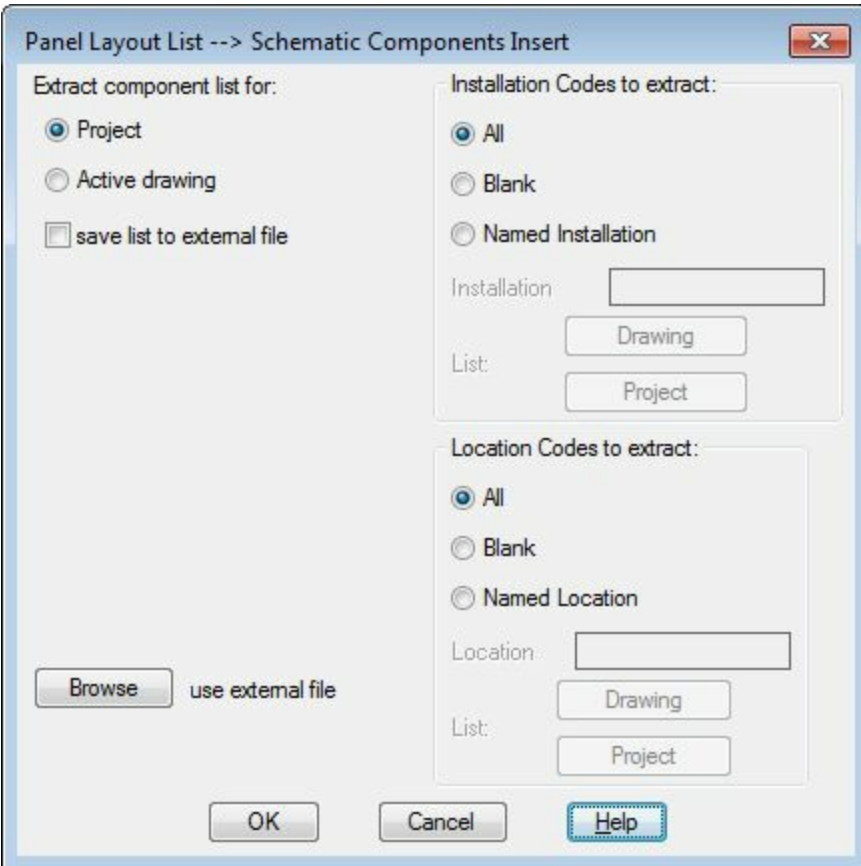

Figure-33. Panel Layout List dialog box
- Click on the **Panel List** tool from the **Component** drop-down. The **Panel Layout List** dialog box will be displayed as shown in Figure-33.